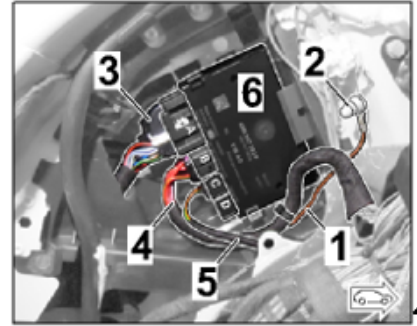

Figure 12
2.4.2 Insert pins (2 x on underside of control unit bracket) into the body (⇒ *Figure 12-A* -)
2.4.3 Clip trailer hitch control unit bracket at the top into the web plate on the body (⇒ *Figure 12-B* -).